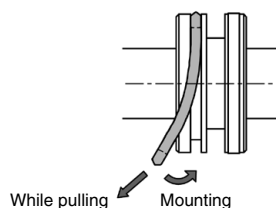

Fig. 5 Installation of the piston seal
③⑧ Rod seal A: Mount the seal in the correct direction.
③⑤ Piston seal: Mount the seal while stretching it as Fig. 5.